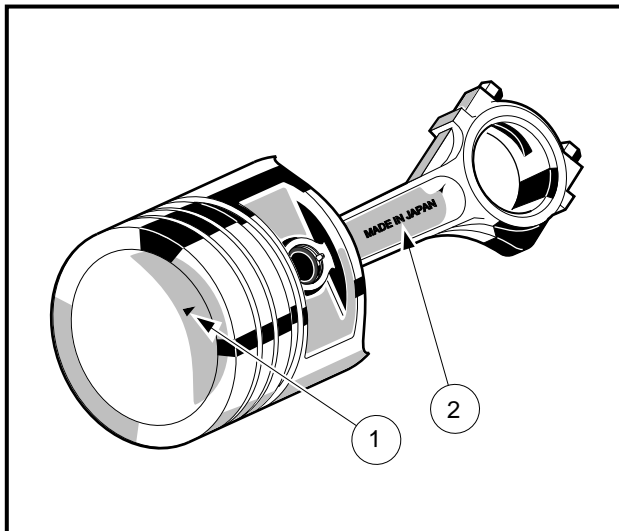
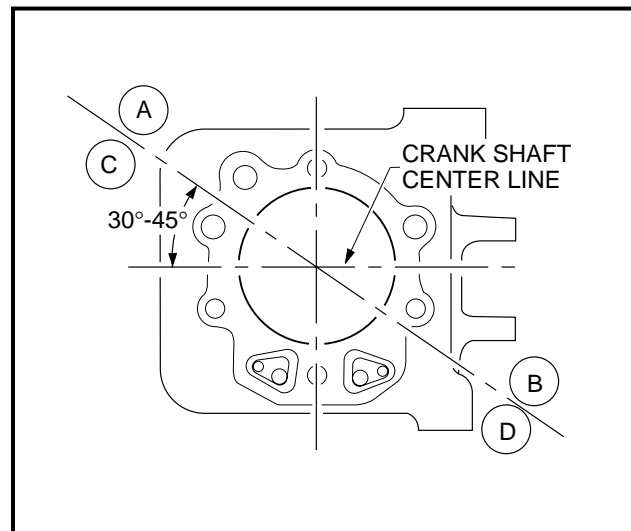

Figure 13-97 Piston/Connecting Rod
Figure 13-98 Position Piston Ring Gaps
- 1.1. Align the arrow mark (1) on the piston head toward the words MADE IN JAPAN (2) on the connecting rod. Insert the piston pin through the piston holes and the connecting rod. Install the two retaining rings to hold the pin in place. The gap in the retaining rings should be facing towards the crankshaft. Make sure the retaining rings are seated in their grooves. Make sure the connecting rod moves freely (**Figure 13-97, Page 13-44**).
- (A) Top Ring Gap
- (B) Second Ring Gap
- (C) Upper Side Rail Gap installed in the lowest ring groove
- (D) Lower Side Rail Gap installed in the lowest ring groove
4. Compress the rings on the piston and finish sliding piston into the cylinder (**Figure 13-98, Page 13-44**).